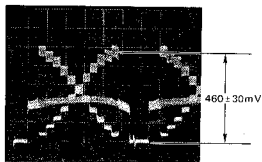

Fig. 5-4
- Adjust lens iris so that CDS output signal at pin 1 of CNS becomes 460 mV as shown in Fig. 5-4.